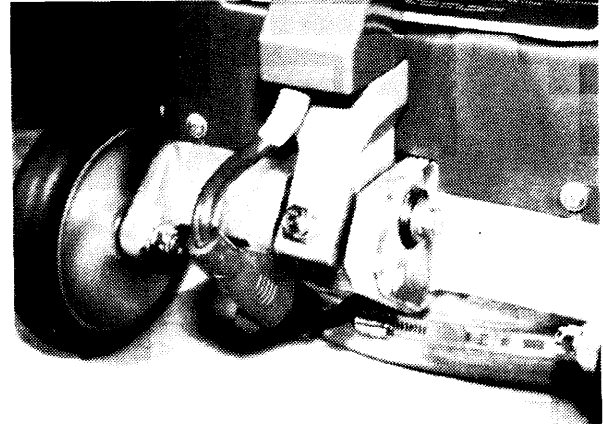

Fig. 5
4. Adjust the handle rest stop bolt to the most comfortable position during use for the operator. See Fig. 5.